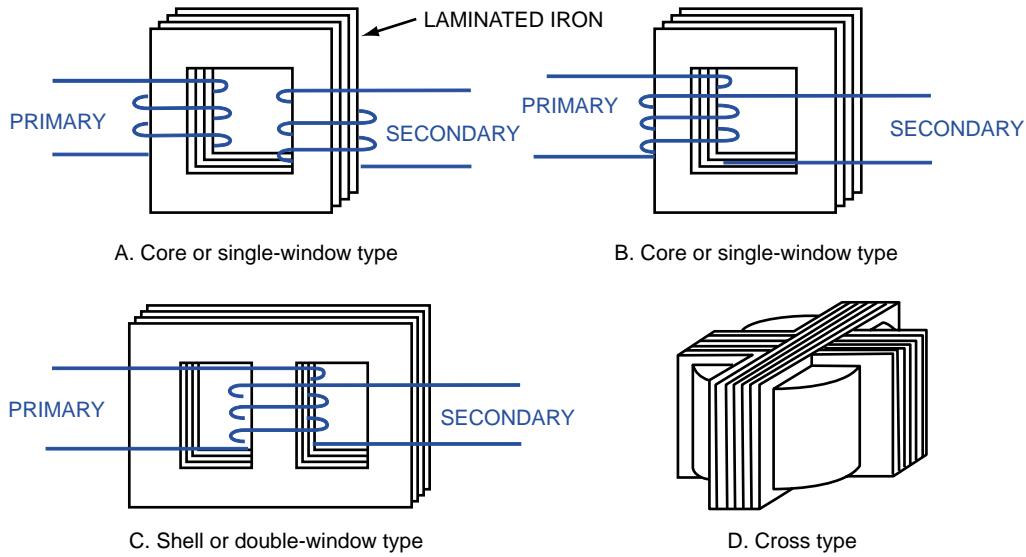

Figure 16-4 Major construction types for transformer cores.
As shown in figure 16-4, three major types of construction for transformer cores are core, shell, and cross or H.
In a core transformer, the primary winding is on one leg of the transformer and the secondary winding is on the other leg. A more efficient type of core construction is the shell, in which the core is surrounded by a shell of iron [figure 16-4(A) and (B)].
The shell or double-window core transformer [figure 16-4(C)] is probably used most frequently in electrical work. In terms of energy conservation, this transformer design operates at 98 percent or higher efficiency.
The cross or H core is also called the modified shell type [figure 16-4(D)]. The coils are surrounded by four core legs. The cross type is really a combination of two shell cores set at right angles to each other. The windings are located over the center core which is four times the area of each of the outside legs. This type of core is very compact and can be cooled easily. It is used for large power transformers where voltage drop and cost must be kept to a minimum. These units are usually immersed in oil for high insulation properties and effective cooling. Another method of cooling the transformers is by forced air. Transformers should never be immersed in water for cooling. Accidental flooding, such as in underground transformer vaults, should be pumped.